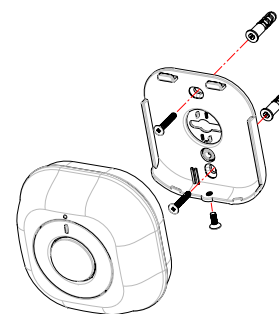
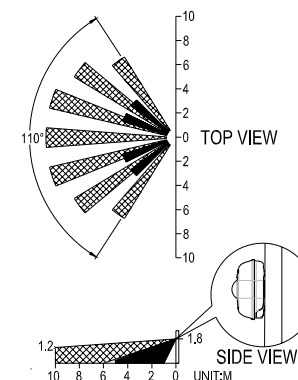
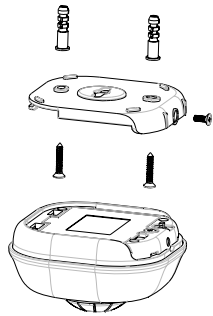
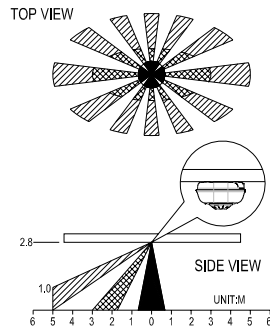

FIGURE 4a
FIGURE 4b
FIGURE 5a
FIGURE 5b
- Two ways of mounting are applicable to the detector. Decide the detector is to be wall-mounted (FIGURE 4a) or ceiling-mounted (FIGURE 5a) based on the coverage angles shown in FIGURE 4b and FIGURE 5b. Hold the rear cover in position and mark the two mounting holes. Drill the holes, insert the plastic wall plugs and screw the rear cover to the wall or ceiling using the screws provided.
The recommended position for wall mounting is at the height of 1.8m (5.91 ft) from the floor. At this height, the optimum detection range is up to 10m (32.81 ft) with coverage range of 110 degrees (FIGURE 4b).
The recommended position for ceiling mounting is at the height of 2.8m (9.19ft) from the floor. At this height, the optimum detection range is up to 5m (16.41ft) with coverage range of 360 degrees (FIGURE 5b).